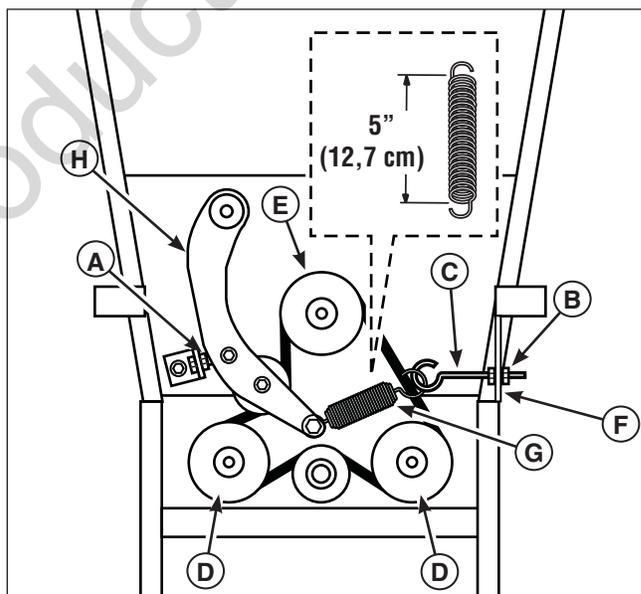
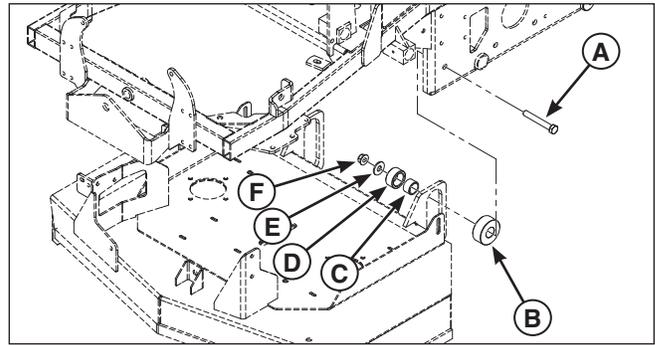

Figure 51. Pump Drive Belt Routing
Figure 55. Pusher Rollers
6. Loosen the inner jam nut (**A, Figure 51**) on the idler arm stabilizer.
8. Remove the old belt and replace it with a new one. Make sure that the belt is properly seated in the chevron of the pump drive sprockets (**D**) and the crankshaft sprocket (**E**). See Figure 51 for proper belt routing.
7. Loosen and remove the 1/2" hardware (**A, Figure 55**) that secure the pusher rollers to the unit. Remove the pusher rollers from the unit.
4. Install the rear of the mower deck to the unit using the pusher rollers and secure as shown in figure 51 using the 1/2" hardware. The 1/2"-13 X 3-1/2" bolt (**A, Figure 55**) is routed through the frame of the unit, the deck guide (**B**), the mower deck roller post, the sleeve bushing (**C**), the roller (**D**), the 1/2 USS washer (**E**) and secured using the 1/2-13 hex nylock flange nut (**F**).